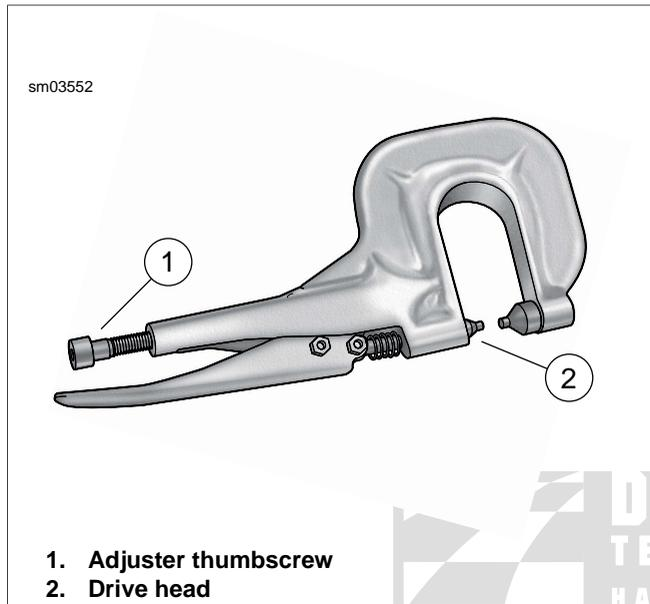

Figure 2-123. Rivet Tool (HD-39787A)
2. Obtain RIVET TOOL (Part No. HD-39787A). See Figure 2-123.